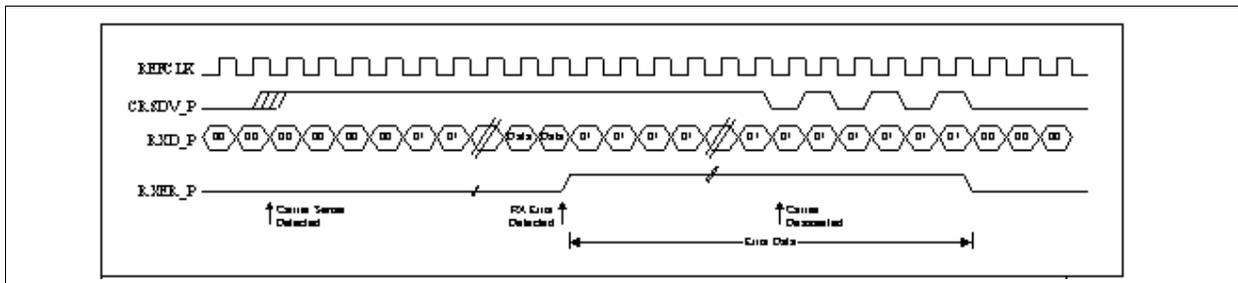

Figure 8 RMI Reception with Symbol Error
A receive symbol error event is shown in Figure 8. The packet with the symbol error is treated as if it were a valid packet with the exception that all di-bits are substituted with the (01) pattern.